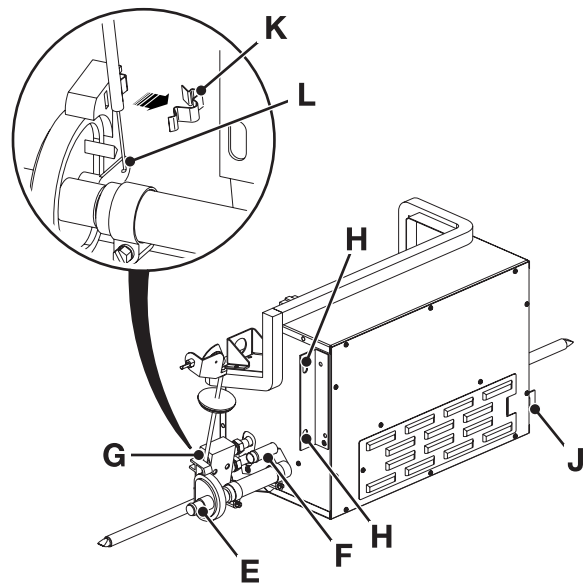

Fig 1.
- 6 Remove bolts **H** and **J** securing the air conditioning (HVAC) unit to the cab. Carefully remove the unit sufficiently to access the electrical harness connector at the rear. Disconnect the electrical connector. ⇒ Fig 1. \(□ B8-3\)